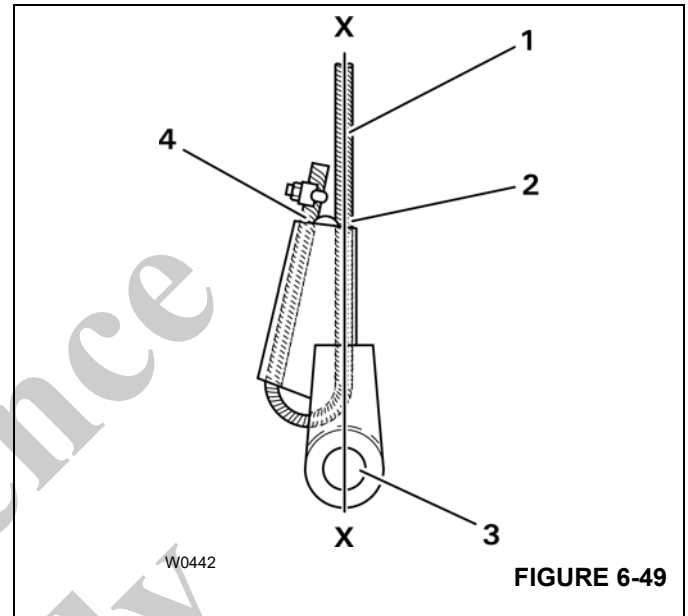

FIGURE 6-49
If the hoist rope is bearing a load, the rope-end clamp always aligns itself so that the point (2) at which the carrying rope (1) ends in the rope-end clamp is on the same axis (X-X) as the slinging point (3) (pulling axis) as shown in (Figure 6-49).